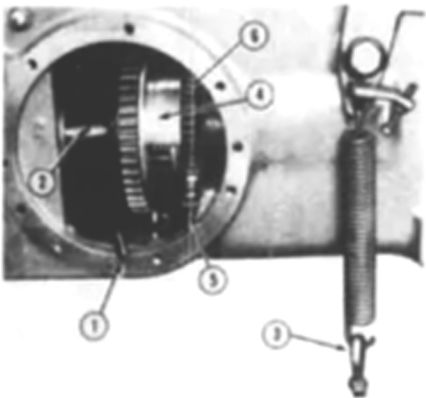
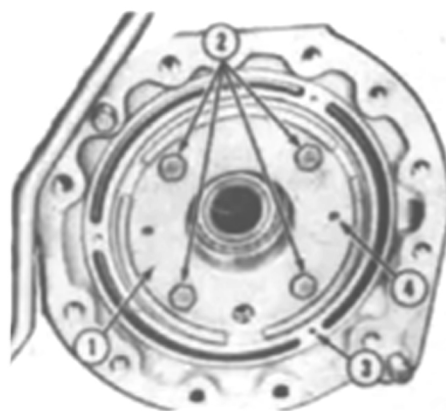

Fig. 87—View of pto clutch, pump drive gear, lower pto drive shaft and lube pump gear on Models 684, 784 and 884. Lube pump is not used on Model Hydro 84.
Fig. 88 - View showing screw holes for removing the brake piston and jack screw holes for removing carrier. Refer to text.
On all models, disconnect pto control valve linkage and range transmission linkage. Drain "Hy-Tran" oil from transmission and rear frame. Unbolt and remove hydraulic lift assembly. Attach split stand to hydrostatic drive or clutch housing and support rear frame with a floor jack. Remove rear wheels, then unbolt and remove rear axle assemblies. Remove pto clutch cover on right side of rear frame. Refer to Fig. 87 and drive roll pin from rear of clutch assembly and lower pto drive shaft. Remove the bearing cap on rear of tractor and move lower pto drive shaft (2) rearward out of pto clutch assembly. Remove clutch (4) and snap ring from rear of gear (6), then remove gear. Separate rear frame from hydrostatic drive or clutch housing. Remove the final drive planetary shafts and note that right shaft is longer than left shaft. Remove brake disc, then install screws in tapped holes of brake piston (3—Fig. 88) and pry equally around edge with a screwdriver to remove the piston. Remove the differential lock shaft and fork.
Attach hoist to the differential, remove bolts (2—Fig. 88) and install jack screws in tapped holes (4). Remove bearing retainers, keeping the shims with the retainer for reassembly. Lift the differential from rear frame.